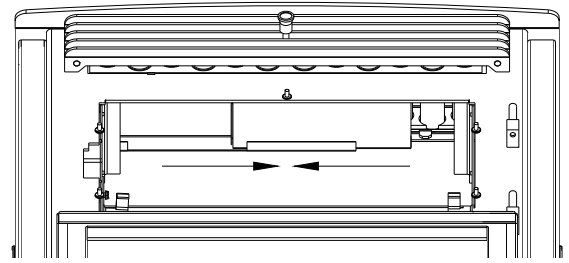

Figure 43
- Open the door and remove the baffle from the firebox. Slide each side of the baffle toward the center to remove (Figure 43). Close the door.
- Baffle:** Remove the baffle and scrape off ashes. Slide both sides toward the center to remove the baffle (Figure 43). Use a vacuum if necessary. In some cases, you will need to remove creosote on the baffle, which can accumulate rapidly under certain conditions. A small wire brush can be used. It is important to remove this creosote because it is highly combustible and could cause premature corrosion.